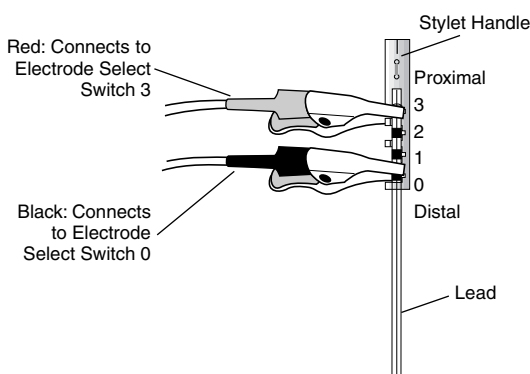

Figure 4. Connect clips to lead contacts.
2. Attach the alligator clips to the applicable lead contacts that correspond to the desired electrodes. Figure 4 provides an example of the connection to the lead contacts for electrodes 0 and 3.